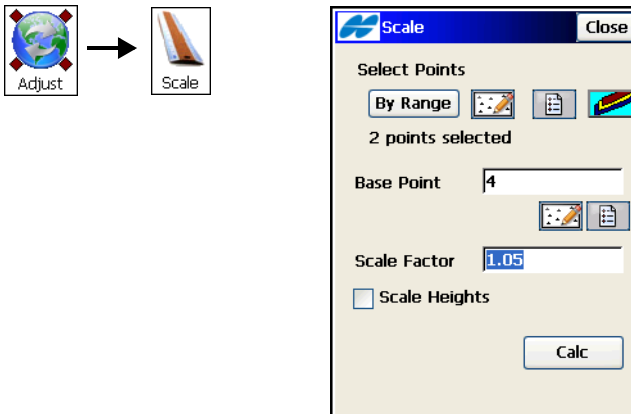

Figure 10-23. Scale
The **Scale** task scales the distances of a range of points relative to a Base Point. On the **Scale** screen (Figure 10-23), do the following:
1. Select the points for the task. In the *Select Points* field, tap the **By Range** button and set the range of the points names, or select points for the scaling task on the map or from the list (Figure 10-23).